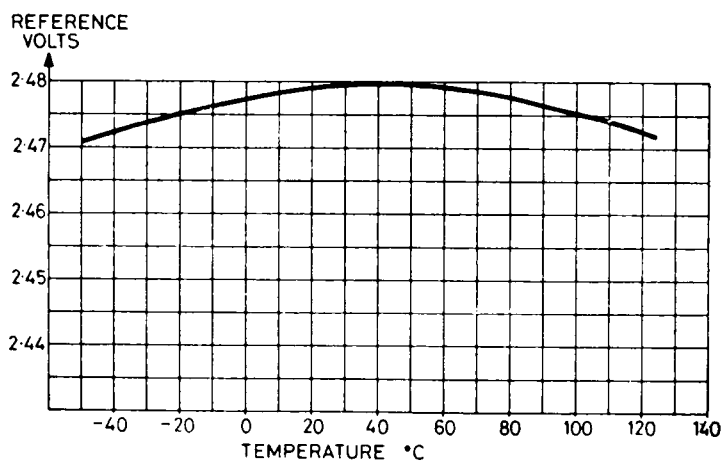

Fig. 6 Typical reference voltage v temperature (all types)
6. For typical temperature performance see Fig.6.